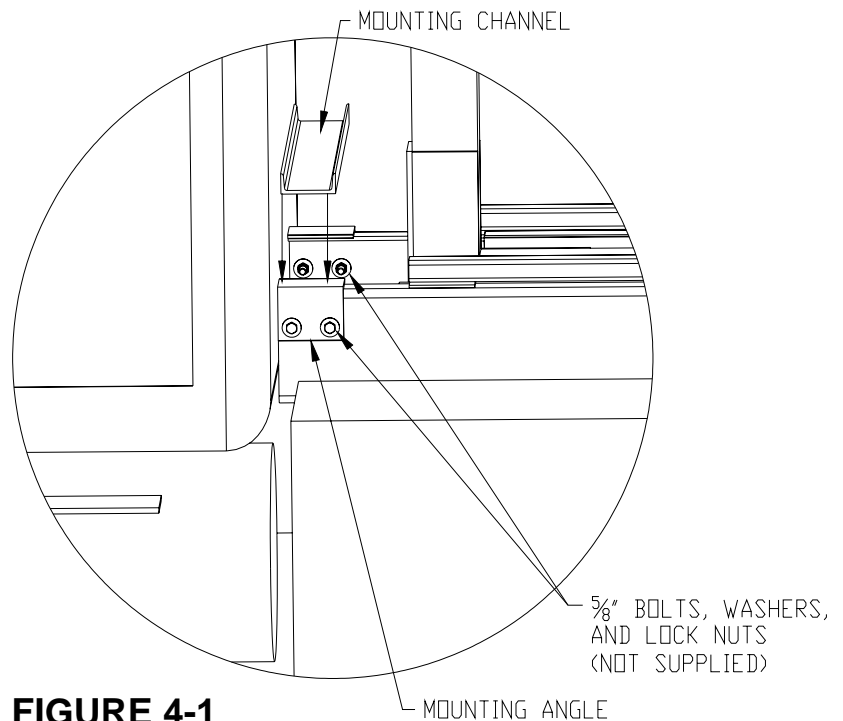

FIGURE 4-1
- Mount angle brackets to the driver and passenger side truck frame. Locate the brackets as close to the cab as possible in the space between cab and hook-lift. Attach angle brackets by bolting with 5/8" bolts, washers, and lock nuts (not supplied) or welding in place. Position mounting channel centered from side to side and front to rear on mounting angles (see figure 4-1).